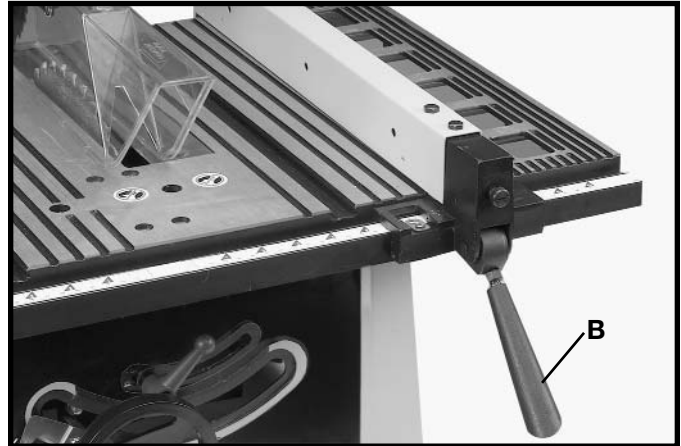

Fig. 26
3. The rip fence is usually operated on the right hand side of the saw table. Lift lock handle (B) Fig. 26, and position fence on table as shown. Push downward on handle (B) Fig. 26, to lock fence in place on saw table.